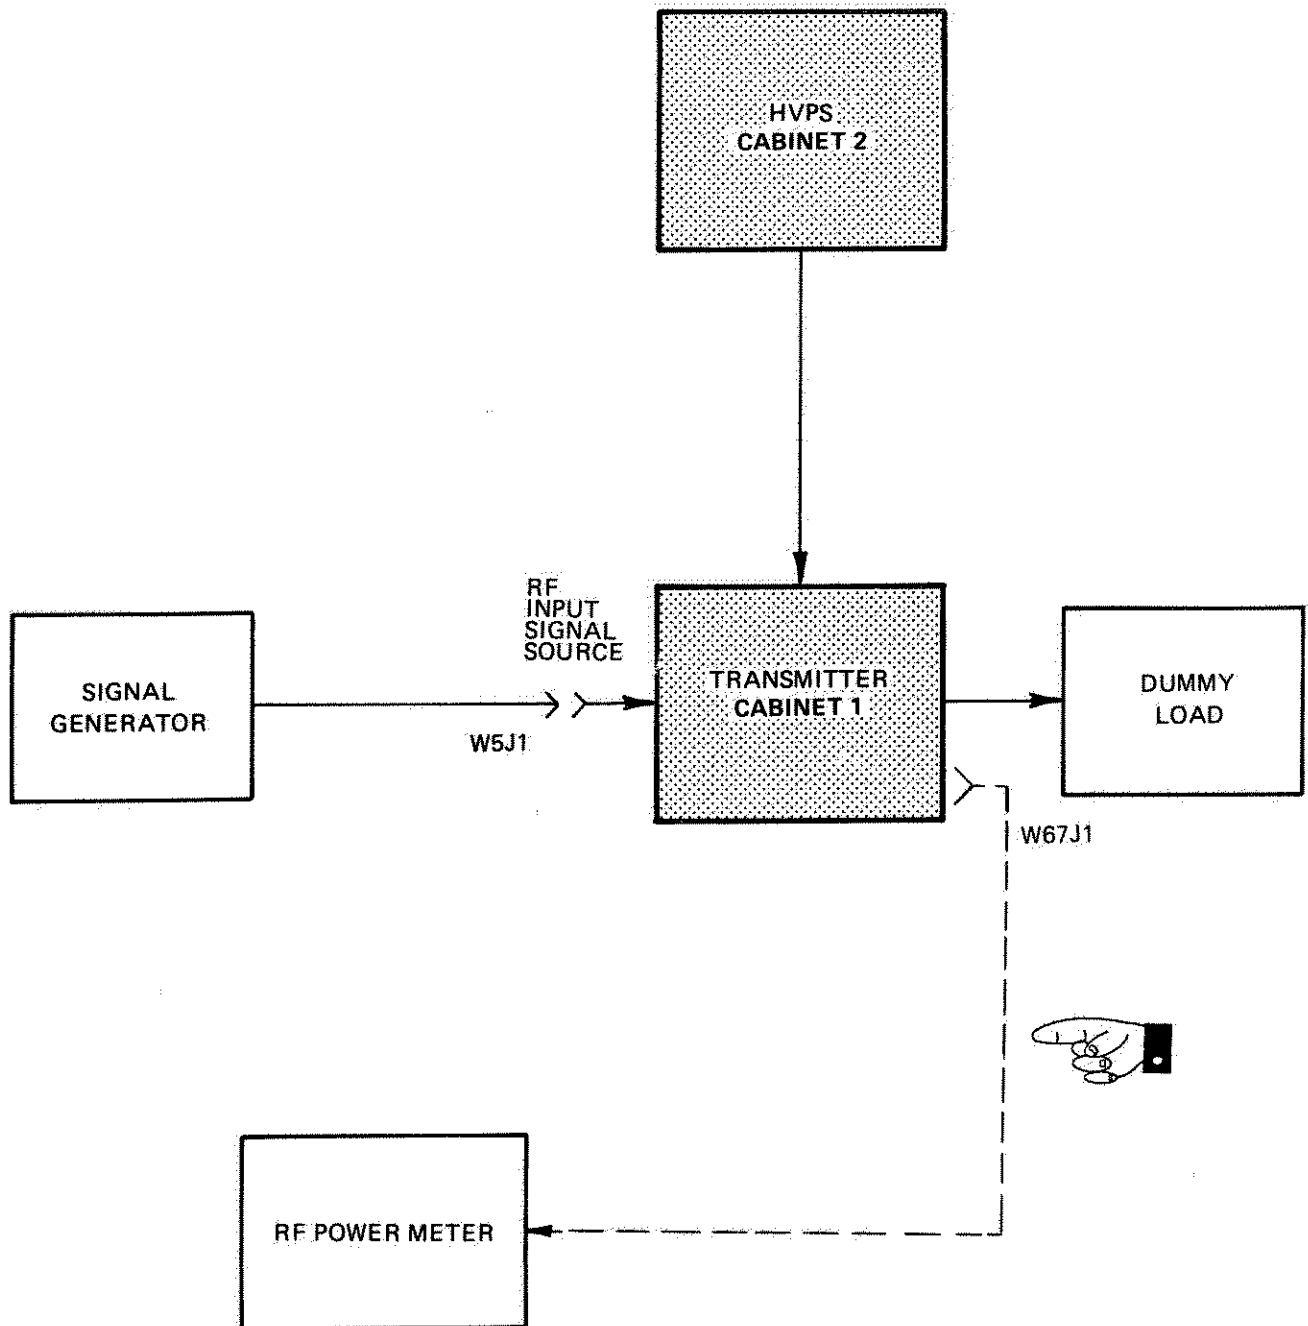

Figure 6-156. Power Gain Equipment Setup
2. Set up equipment per Figure 6-156. Connect RF signal generator output to RF INPUT SIGNAL SOURCE jack on RF SIGNAL MONITORS panel. Set switch 1A25S2, RF INPUT SELECTOR to LOCAL position.